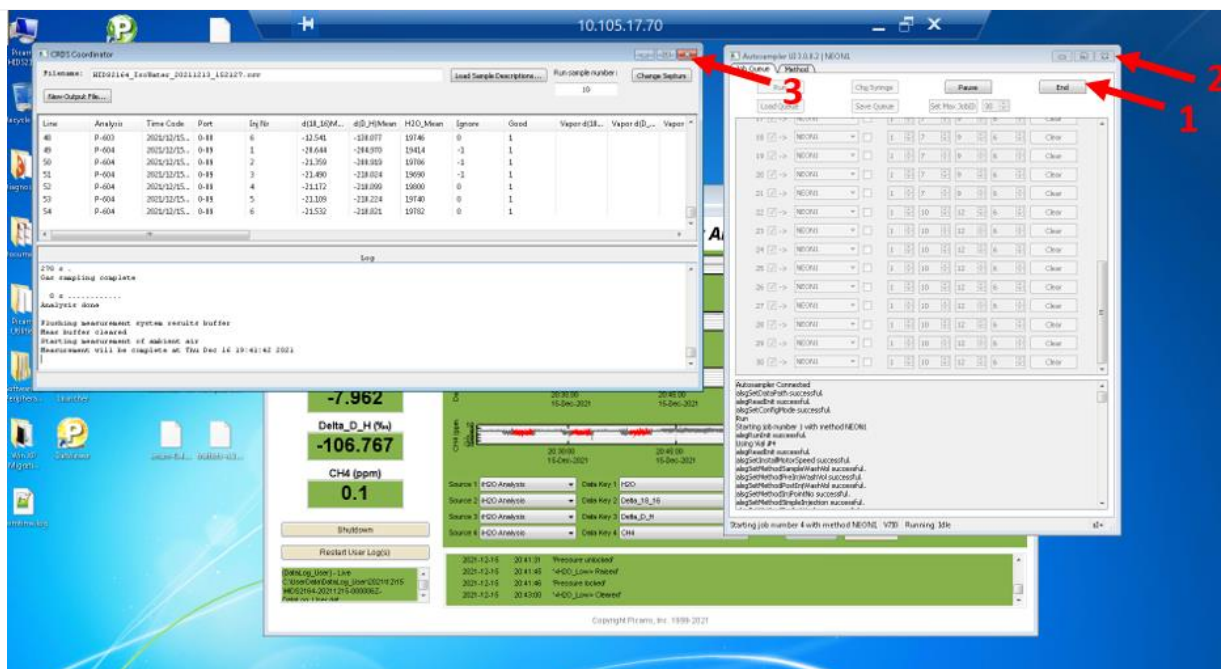

Figure 155. Close Autosampler UI and CRDS Coordinator Programs.
STEP 2 | Ensure that no current autosampler jobs are running by clicking on the Autosampler UI Window and clicking on the “End” button (1), closing the window Autosampler UI Window (2) and closing the CRDS Coordinator Window (3). Use **Figure 155** as reference for each of these steps. If these windows are not open, then proceed to the next step.